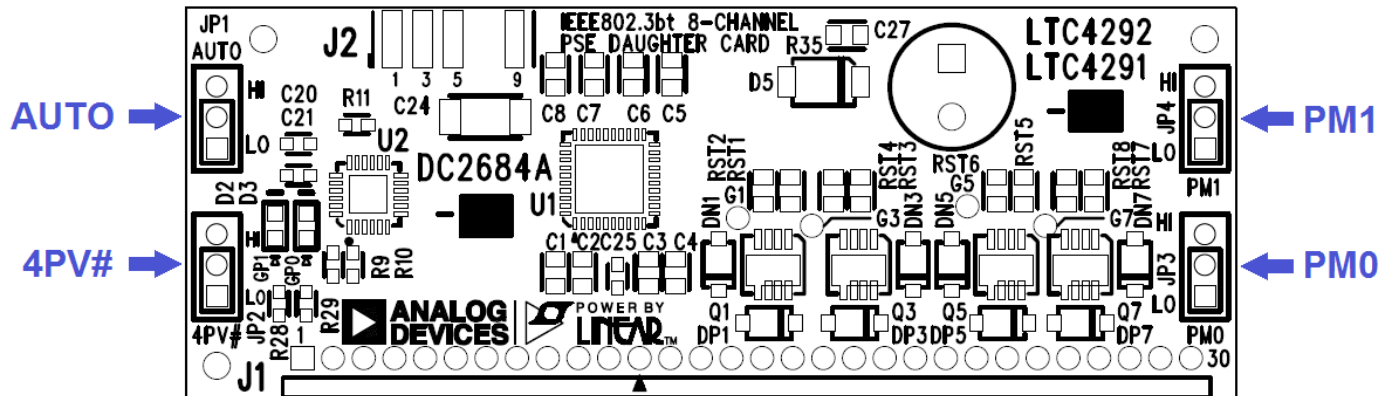
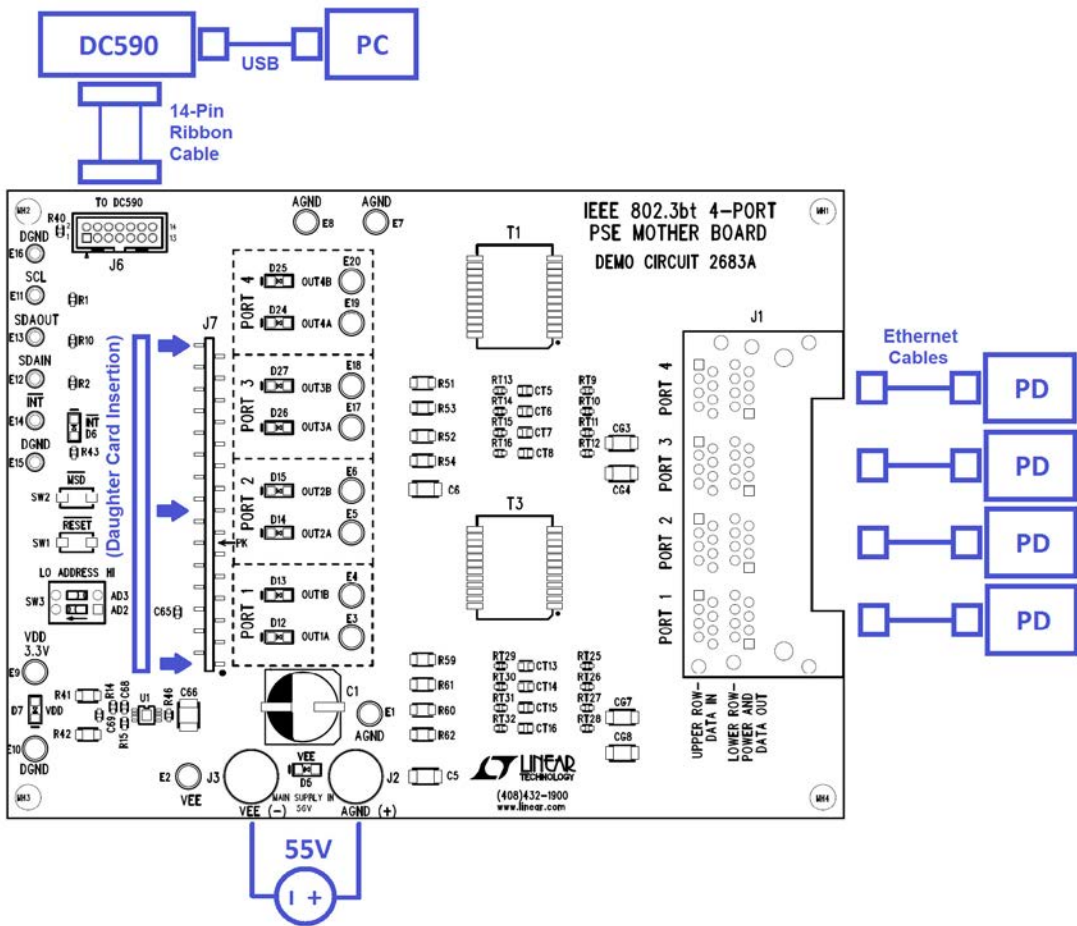

Figure 1. DC2684A-B Jumpers: AUTO, 4PV#, PM0 and PM1
Figure 3. DC2685B Kit Connections
Follow the quick start procedure below for basic operation of the DC2685B kit. Refer to Figure 1 through Figure 3 and Table 1 through Table 4 for proper equipment setup.
1. On the DC2684A-B daughter card set AUTO jumper JP1 (Figure 1) to a selected AUTO mode setting shown in Table 1.
2. On the DC2684A-B daughter card set 4PV# jumper JP2 (Figure 1) to a selected 4-Pair Valid setting as shown in Table 1.
3. On the DC2684A-B daughter card set PM1 jumper JP4 and PM0 jumper JP3 (Figure 1) to the power mode for evaluation specified in Table 2.
5. Connect a supply to the motherboard with the positive rail to AGND (+) and negative rail to V_{EE} (–) as shown in Figure 3. Use a power supply capable of sourcing the maximum delivered power for all four ports set by JP3 and JP4 on the daughter card (or I²C configured power). Ramp the supply up to within the recommended voltage range specified in Table 3.
8. Connect the DC590 to the DC2683A at connector J6 with a 14-pin ribbon cable as shown in Figure 3 and open the QuikEval GUI. A GUI for the LTC4291-1/LTC4292 is brought up by QuikEval. (Follow the DC590 demo manual instructions if this has not been previously setup.)
9. Connect up to four PDs to the DC2685B RJ45 connector J1, bottom row ports 1-4 as shown in Figure 3.
The V_{EE} supply is the main PoE supply and connects to the DC2683A with the positive rail to AGND (+) and the negative rail to V_{EE} (–) as shown in Figure 3 of the Quick Start Procedure. The voltage must be within the range shown in Table 3 depending on the application PSE type. For full load testing at each port, choose a power supply that is set with a current limit higher than the maximum allowed output power at each port.